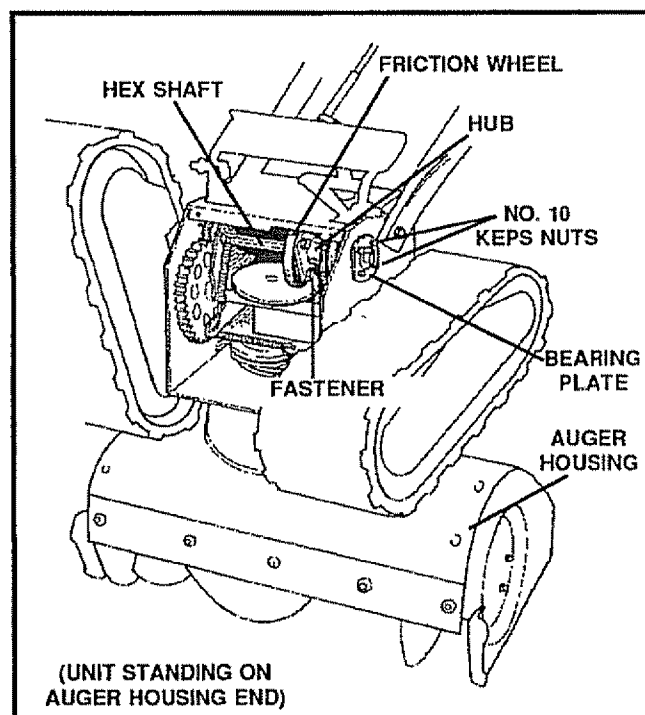

FIG. 33
- Rotate the right side track until it is parallel to the ground (See Fig 33).
- Move the shifter lever into first (1) gear.
- Loosen the four No. 10 keps nuts securing the bearing plate (See Fig. 33). Do not remove the nuts.